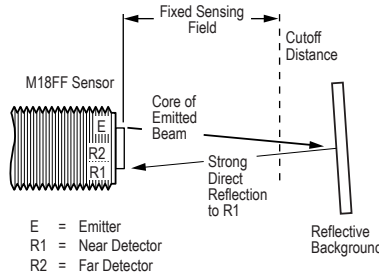
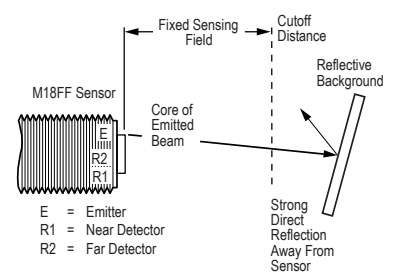
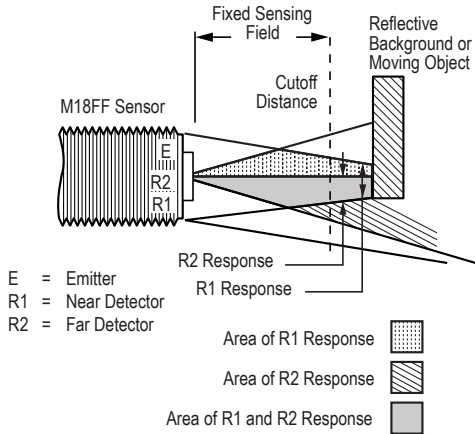
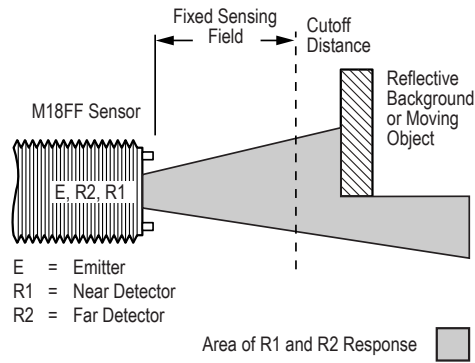

Figure 2. Reflective Background - Problem
Figure 3. Reflective Background - Solution
Figure 4. Object Beyond Cutoff - Problem
Figure 5. Object Beyond Cutoff - Solution
In the drawings and discussion, E, R1, and R2 identify how the sensor's three optical elements (Emitter "E", Near Detector "R1", and Far Detector "R2") line up across the face of the sensor. In Figure 2 on p. 3, Figure 3 on p. 3, and Figure 4 on p. 3, these elements align vertically. In Figure 5 on p. 3, the elements align horizontally.
Note how the position of the tabs on the front of the sensor helps to define the sensing axis of the sensor (Sensing Axis). The sensing axis becomes important in situations like those illustrated in Figure 4 on p. 3 and Figure 5 on p. 3.
**Background Reflectivity and Placement.** Avoid mirror-like backgrounds that produce specular reflections. False sensor response will occur if a background surface reflects the sensor's light more strongly to the near detector (R1) than to the far detector (R2). The result is a false ON condition (Figure 2 on p. 3). Use of a diffusely-reflective (matte) background will cure this problem. Other possible solutions are to either angle the sensor or angle the background (in any plane) so that the background does not reflect back to the sensor (Figure 3 on p. 3).
An object beyond the cutoff distance, either moving or stationary (and when positioned as shown in Figure 4 on p. 3), can cause unwanted triggering of the sensor because it reflects more light to the near detector than to the far detector. Remedy the problem easily by rotating the sensor 90° (Figure 5 on p. 3) to align the sensing axis horizontally. The object then reflects the R1 and R2 fields equally, resulting in no false triggering. A better solution, if possible, may be to reposition the object or the sensor.
Unwanted triggering of the sensor from an object beyond the cutoff can also be caused by attempting to sense a small object moving perpendicular to the sensor face, or by an object moving through the off-center position shown. Making the object larger, centering the sensor relative to the object, or rotating the sensor to place the sensing axis perpendicular to the longer dimension of the object (Figure 5 on p. 3) will solve the problem.